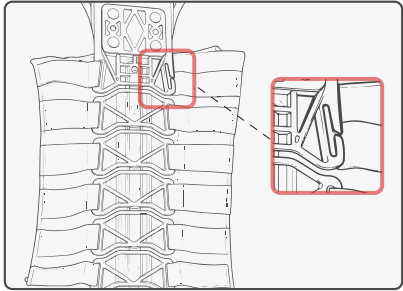

Figure 26 Back harness
- ⦿ As shown in the figure 26, remove each piece of webbing from the open slots one by one to detach the back fabric.